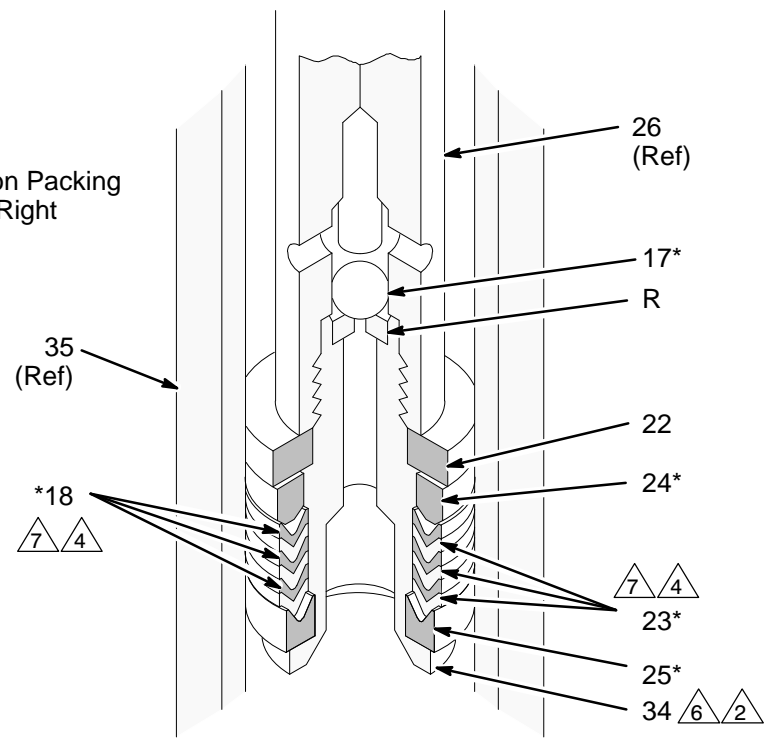

Fig. 5
When disassembling the pump, lay out all removed parts in sequence, to ease reassembly. Refer to Fig. 5.
2. Unscrew the intake valve housing (33) from the outlet housing (35). If it is difficult to remove, squirt penetrating oil around the threads and *gently* tap around the valve housing with a plastic hammer to loosen it. See Fig. 5.
3. Remove the ball stop pin (29), o-ring retainer (31), o-ring (30), guide (32) and ball (28) from the intake valve housing (33).
4. Loosen the packing nut (36). Push the displacement rod (26) down as far as possible, then pull it out the bottom of the outlet housing (35).
5. Secure the flats of the displacement rod (26) in a vise. Screw the piston stud (34) out of the rod. Remove the ball (17), retainer (22), packings (18, 23) and glands (24, 25).
6. Remove the packing nut (36), throat packings (18, 23) and glands (24, 25) from the outlet housing (35).
7. Inspect all parts for damage. Clean all parts and threads with a compatible solvent before reassembling. Inspect the polished surfaces of the displacement rod (26) and sleeve (20) for scratches, scoring or other damage, which can cause premature packing wear and leaking. To check, run a finger over the surface or hold the part up to the light at an angle. Be sure the ball seats of the piston (R) and intake valve housing (S) are not chipped or nicked. Replace any worn or damaged parts.
1. Lubricate the throat packings and install them in the outlet housing (35) one at a time as follows, *with the lips of the v-packings facing down*: the male gland (24*), one leather v-packing (18*), one PTFE (23*), one leather (18*), one PTFE (23*), one leather (18*), one PTFE (23*), and the female gland (25*). Install the packing nut (36) loosely. See the Throat Packing Detail in Fig. 5.
2. If you removed the sleeve (20), reinstall it in the outlet housing (35), making sure to replace the gasket (19*). *Be sure the tapered end of the sleeve faces down, toward the pump intake.*
3. Lubricate the piston packings and install them onto the piston stud (34) one at a time in the following order, *with the lips of the v-packings facing up*: the female gland (25*), one PTFE v-packing (23*), one leather v-packing (18*), one PTFE (23*), one leather (18*), one PTFE (23*), one leather (18*), the male gland (24*), and the packing retainer (22). See the Piston Packing Detail in Fig. 5.
4. Use thread sealant on the piston stud (34). Install the piston ball (17*) on the piston and screw the piston valve assembly into the displacement rod (26). Torque to 55–65 ft–lb (74–88 N.m).
5. Insert the displacement rod (26) into the bottom of the outlet housing (35), being careful not to scratch the sleeve (20). Push the rod straight up until it protrudes from the packing nut (36).
6. Install the ball (28*), guide (32), o-ring (30*), retainer (31), and ball stop pin (29) in the intake valve housing (33). Apply thread lubricant and screw the intake housing into the outlet housing (35). Torque to 55–65 ft–lb (74–88 N.m).